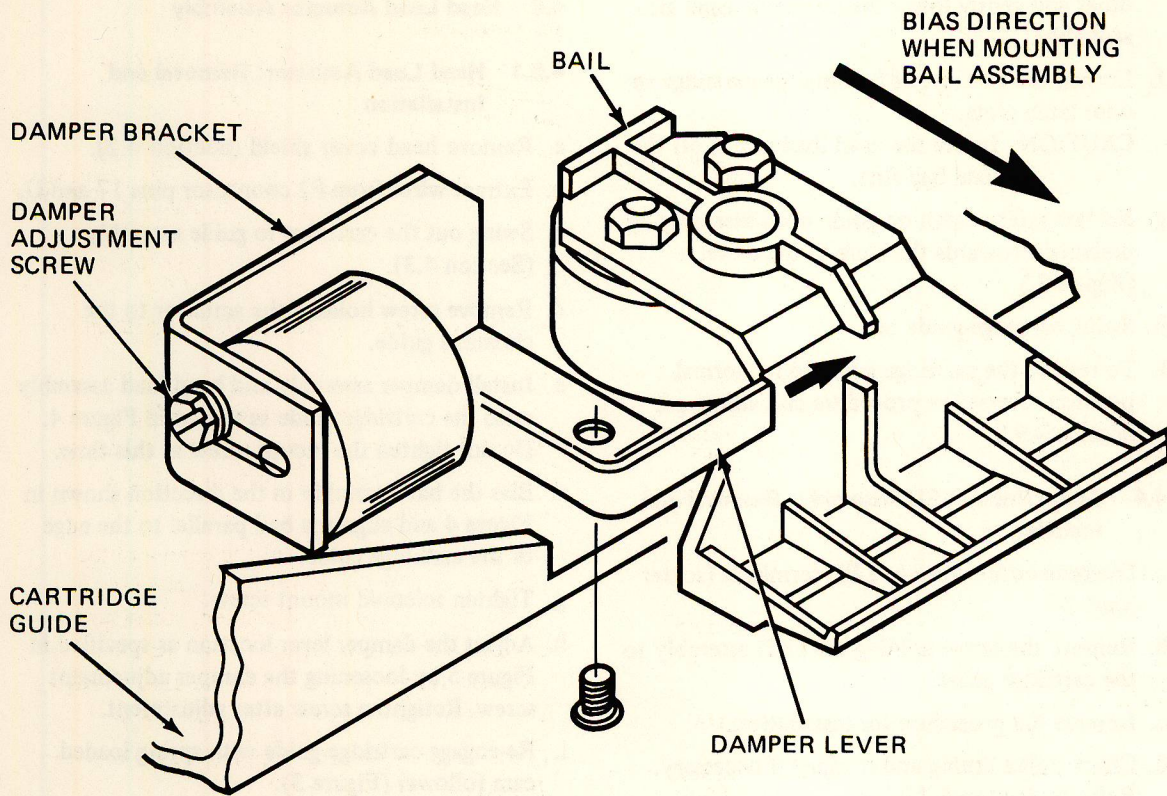

FIGURE 4 DAMPER AND HEAD LOAD POSITIONING
- e. Install damper assembly and head load assembly onto the cartridge guide as shown in Figure 4. Do not tighten the mount screw at this time.
- f. Bias the bail assembly in the direction shown in Figure 4 and align the bail parallel to the edge of the cartridge guide.